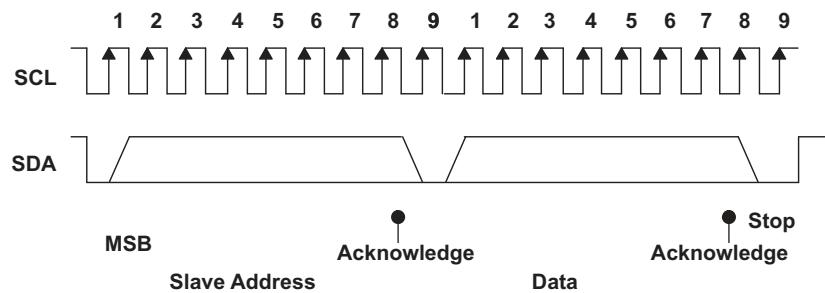

Figure 12. I2C Address and Data Cycles
- The master generates further SCL cycles to either *transmit* data to the slave (R/W bit 1) or *receive* data from the slave (R/W bit 0). In either case, the *receiver* needs to acknowledge the data sent by the *transmitter*. So, an acknowledge signal can either be generated by the master or by the slave, depending on which one is the receiver. The 9-bit valid data sequences consisting of 8-bit data and 1-bit acknowledge can continue as long as necessary (see Figure 12).